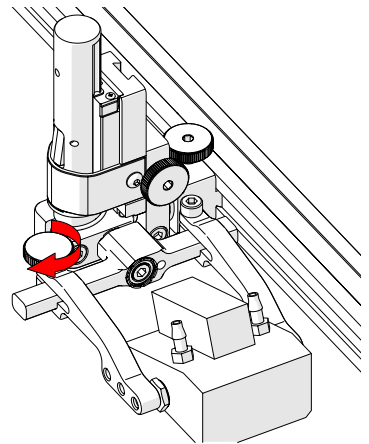

Fig. 37 - Tighten arm knob
6. Tighten the probe holder arm adjustment knob (Fig. 37).